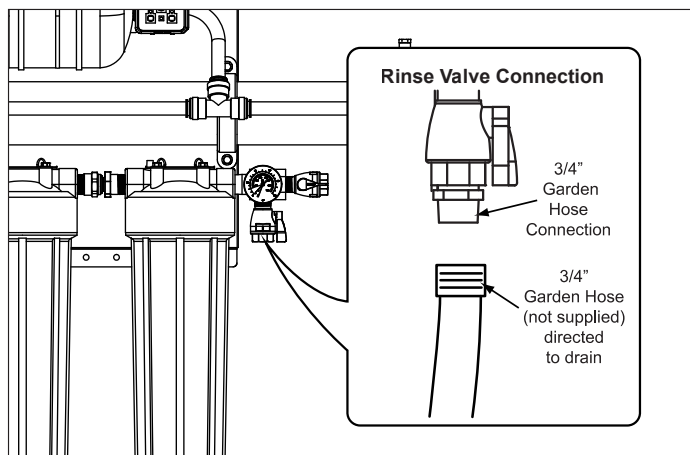

Figure 2. Rinse Valve Connection
1. Attach a hose to the Rinse Valve and direct the hose to a drain (Figure 2).